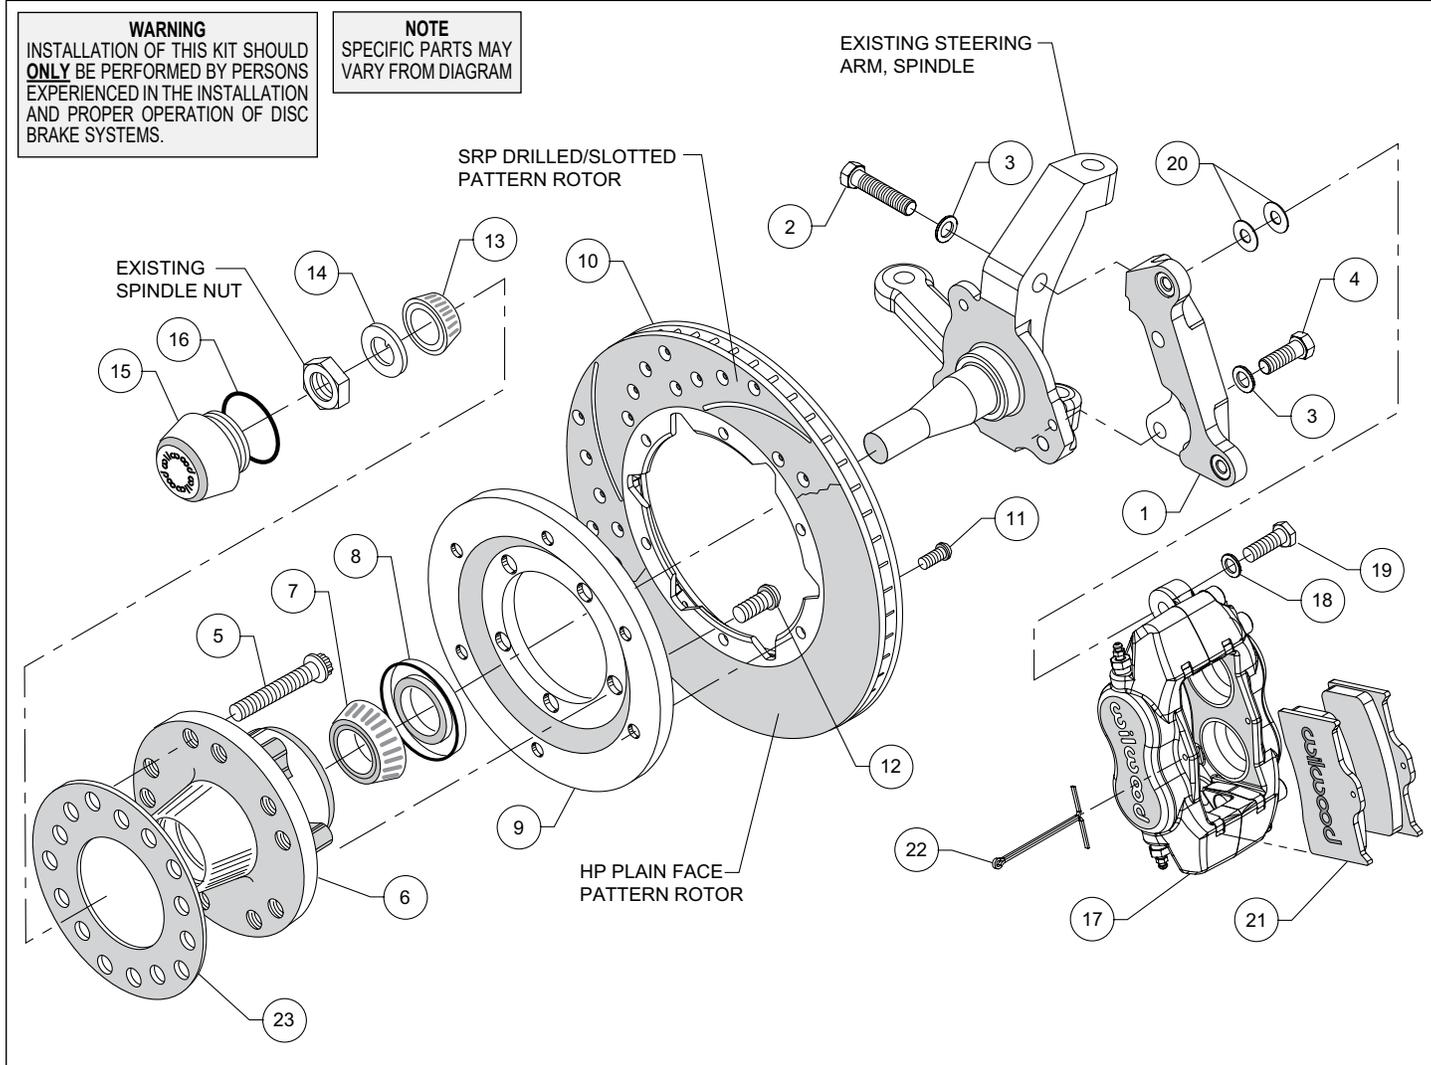
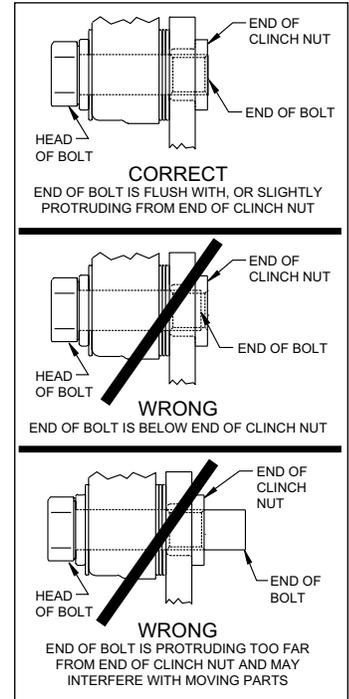

Figure 1. Typical Installation Configuration
Figure 3. Clinch Nut Engagement Diagram
NOTE: Numbers in parenthesis refer to the parts list and Figure 1 on the preceding pages.
CAUTION: All mounting bolts must fully engage clinch nuts. Be sure to check that all bolts are either flush or protruding through flanged side of clinch nut after shimming, Figure 3.
- Align caliper mounting bracket (1) with the corresponding holes on the spindle. Attach using bolts (2 and 4) and washers (3) as shown in Figure 1 and Photo 1. Temporarily tighten the mounting bolts. Ensure that the flanged heads of the clinch nuts in the bracket are facing outboard, Photo 1. **NOTE:** The bracket must fit squarely against the mounting points on the spindle. Inspect for interference from casting irregularities, machining ridges, burrs, etc. Remove bolts one at a time, apply red *Loctite*® 271 to threads and torque to 47 ft-lbs.
- Install the grease seal (8) by pressing into the backside of the hub (6), flush with the end of the hub, Photo 3.
- Orient the rotor (10) and the rotor adapter (9) as shown in Figure 1 and Photo 4. Attach the rotor to the adapter using bolts (11). Using an alternating sequence, apply red *Loctite*® 271 to the threads, and torque to 25 ft-lb.
- Mount the adapter/rotor assembly (9/10) to the hub (6) using bolts (12), as shown in Figure 1 and Photo 5. Using an alternating sequence, apply red *Loctite*® 271 to the threads, and torque to 45 ft-lb.
- Pack the small outer bearing cone (13) with high temperature disc brake bearing grease and install into hub (6). Slide the hub/rotor assembly onto the spindle. Secure using spindle washer (14) and OEM spindle nut, Photo 6. Adjust bearings per OEM specifications. Install saved OEM nut lock (if any) and a new cotter pin (not included).
- Screw dust cap (15) into hub (6), Photo 7. Friction created by the o-ring (16) on the dust cap keeps it from unscrewing. **NOTE:** *The O.D. of the existing OEM spindle washer may be larger than the I.D. of the dust cap not allowing it to seat against the hub face. Therefore, use the spindle washer (14) supplied with the kit instead of the OEM washer.*
- NOTE:** *Please reference the caution statement at the beginning of the assembly instructions.* Mount the caliper (17) onto the caliper mounting bracket (1) using bolts (19) and washers (18), as shown in Figure 1. Initially place two .035" thick shims (20) on each bolt between the caliper and the bracket, Photo 8. Temporarily tighten the mounting bolts and view the rotor (10) through the top opening of the caliper. The rotor should be centered in the caliper, Photo 9. If not, adjust by adding or subtracting shims between the bracket and the caliper. Always use the same amount of shims on each of the two mounting bolts. **NOTE:** *The end of each bolt must be flush with or slightly protruding from the head of the clinch nut, as shown in Figure 3.* If necessary place spare shims between washer (18) and caliper mounting ear to achieve the proper clinch nut engagement. Once the caliper alignment and clinch nut engagement are correct, remove the bolts one at a time, apply red *Loctite® 271* to bolt threads, and torque to 40 ft-lb.
- Install the disc brake pads (21) into the caliper, with the friction material facing the rotor (10), and secure in place using cotter pin (22), Photo 10.
- Temporarily install wheel and torque lug nuts to manufacturer's specification. Ensure that the wheel rotates freely without any interference. **NOTE:** *Wheel spacer (23) MUST be used if any wheel contact surfaces overhang the outside diameter of the hub face. See warning on page 3.*